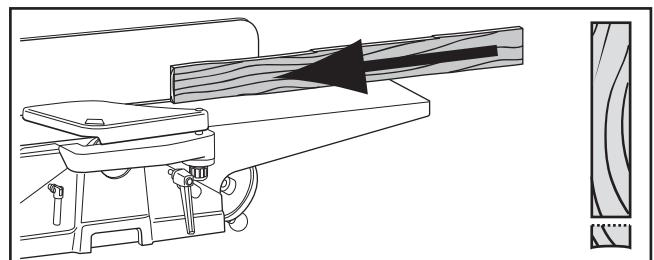

Figure 55. Edge jointing on jointer.
1. Edge joint concave edge of 2x4 flat on jointer, as shown in **Figure 55**.